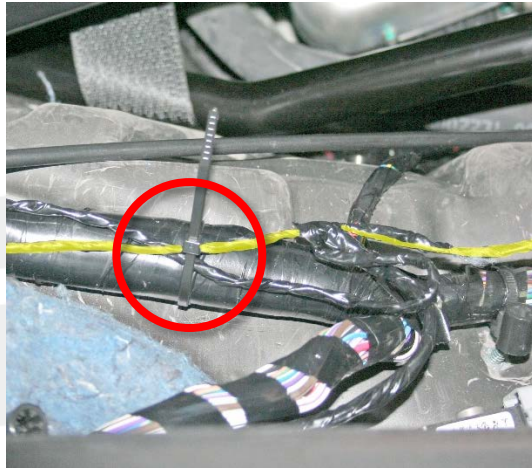

Figure 25 (TPMS harness highlighted)
31. Near the rear of the 2nd row seat frame, use a cable tie to secure the TPMS harness to the taped section of the main RH main harness (Figure 25). Remove any excess tie.